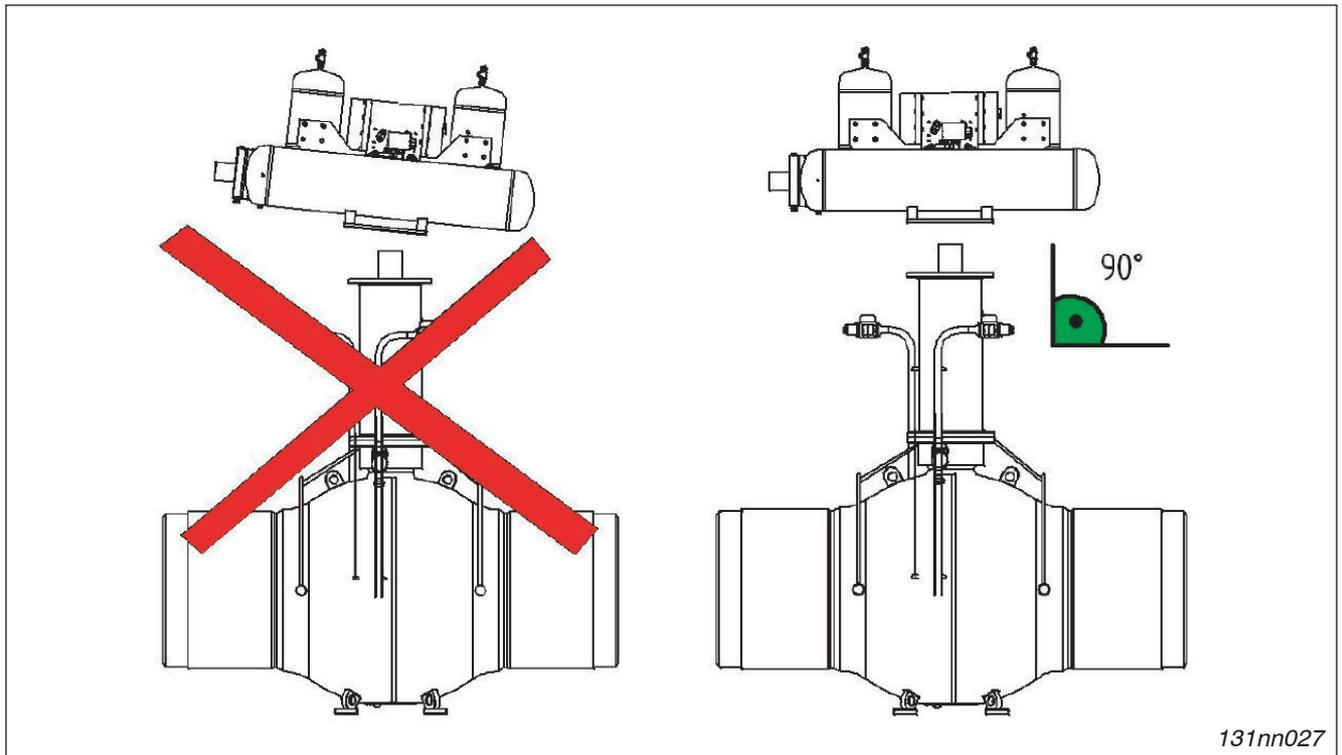

Fig. 4-1 Lowering the actuator system in upright position
Lower the actuator system onto the ball valve in a horizontal position (*Fig. 4-1*) for installation. Do not level out the actuator and the ball valve before they have been lowered completely.
5. Slowly lower the actuator onto the ball valve in an upright position (*Fig. 4-1*).